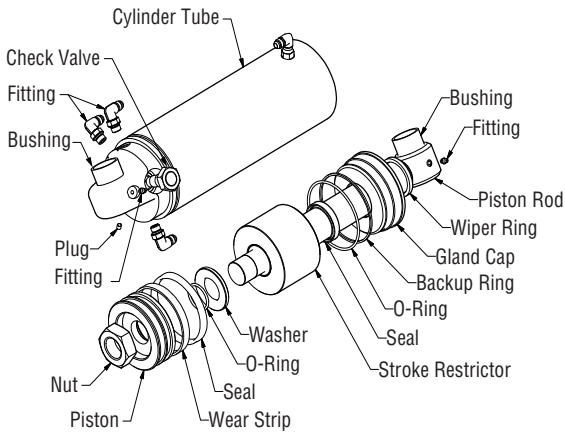

Figure 5-37, Cylinder Assembly
3. Line up the cylinder rod end to the body by extending the cylinder rod. Install the pivot pin retainer. (Figure 5-37)